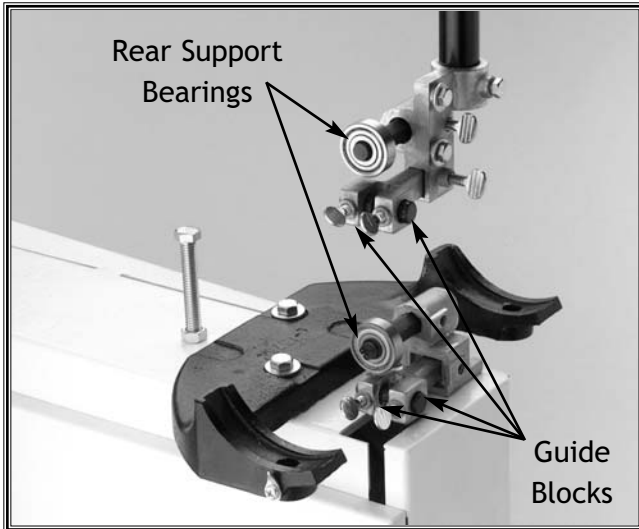

Figure 37. Blade guide assemblies.
1. Familiarize yourself with the thumbscrews on the blade guide assemblies. See **Figure 37**.